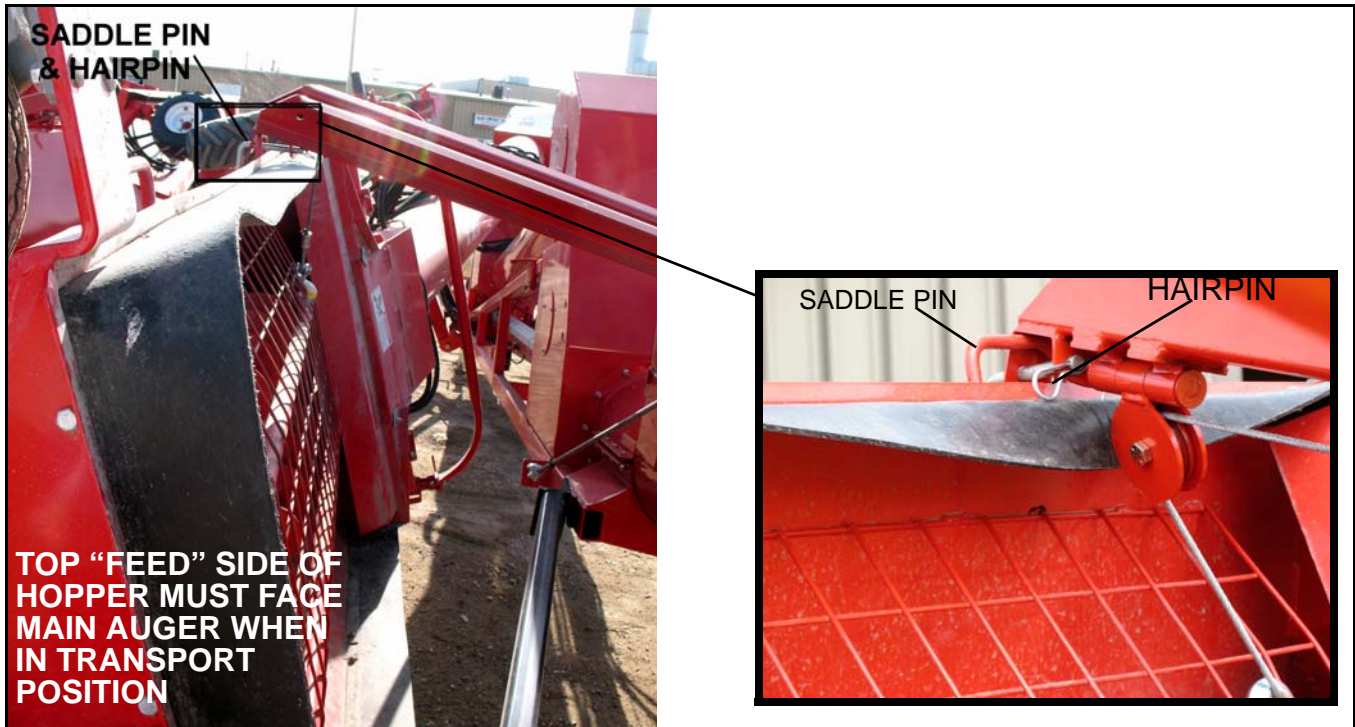

Figure 4.3
4. Ensure intake feed hopper is raised into transport position (see “Lowering Auger” on page 92) and lift cable is connected and secured with saddle pin and hairpin (see Figure 4.3).